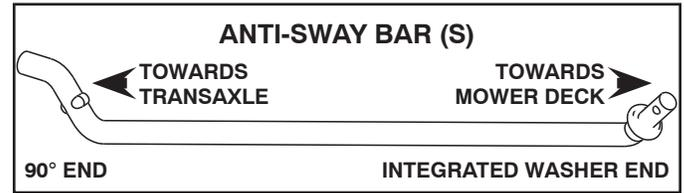

Fig. 25
## 5. INSTALL ANTI-SWAY BAR (S) (IF EQUIPPED) (See Fig. 25 - 27)